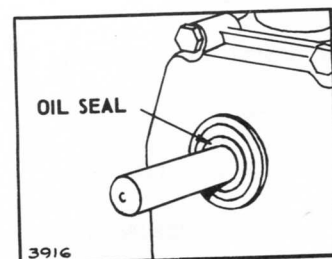

FIGURE 9-9
2. Press the oil seal flush with the hub surface of the cylinder. See figure 9-9.